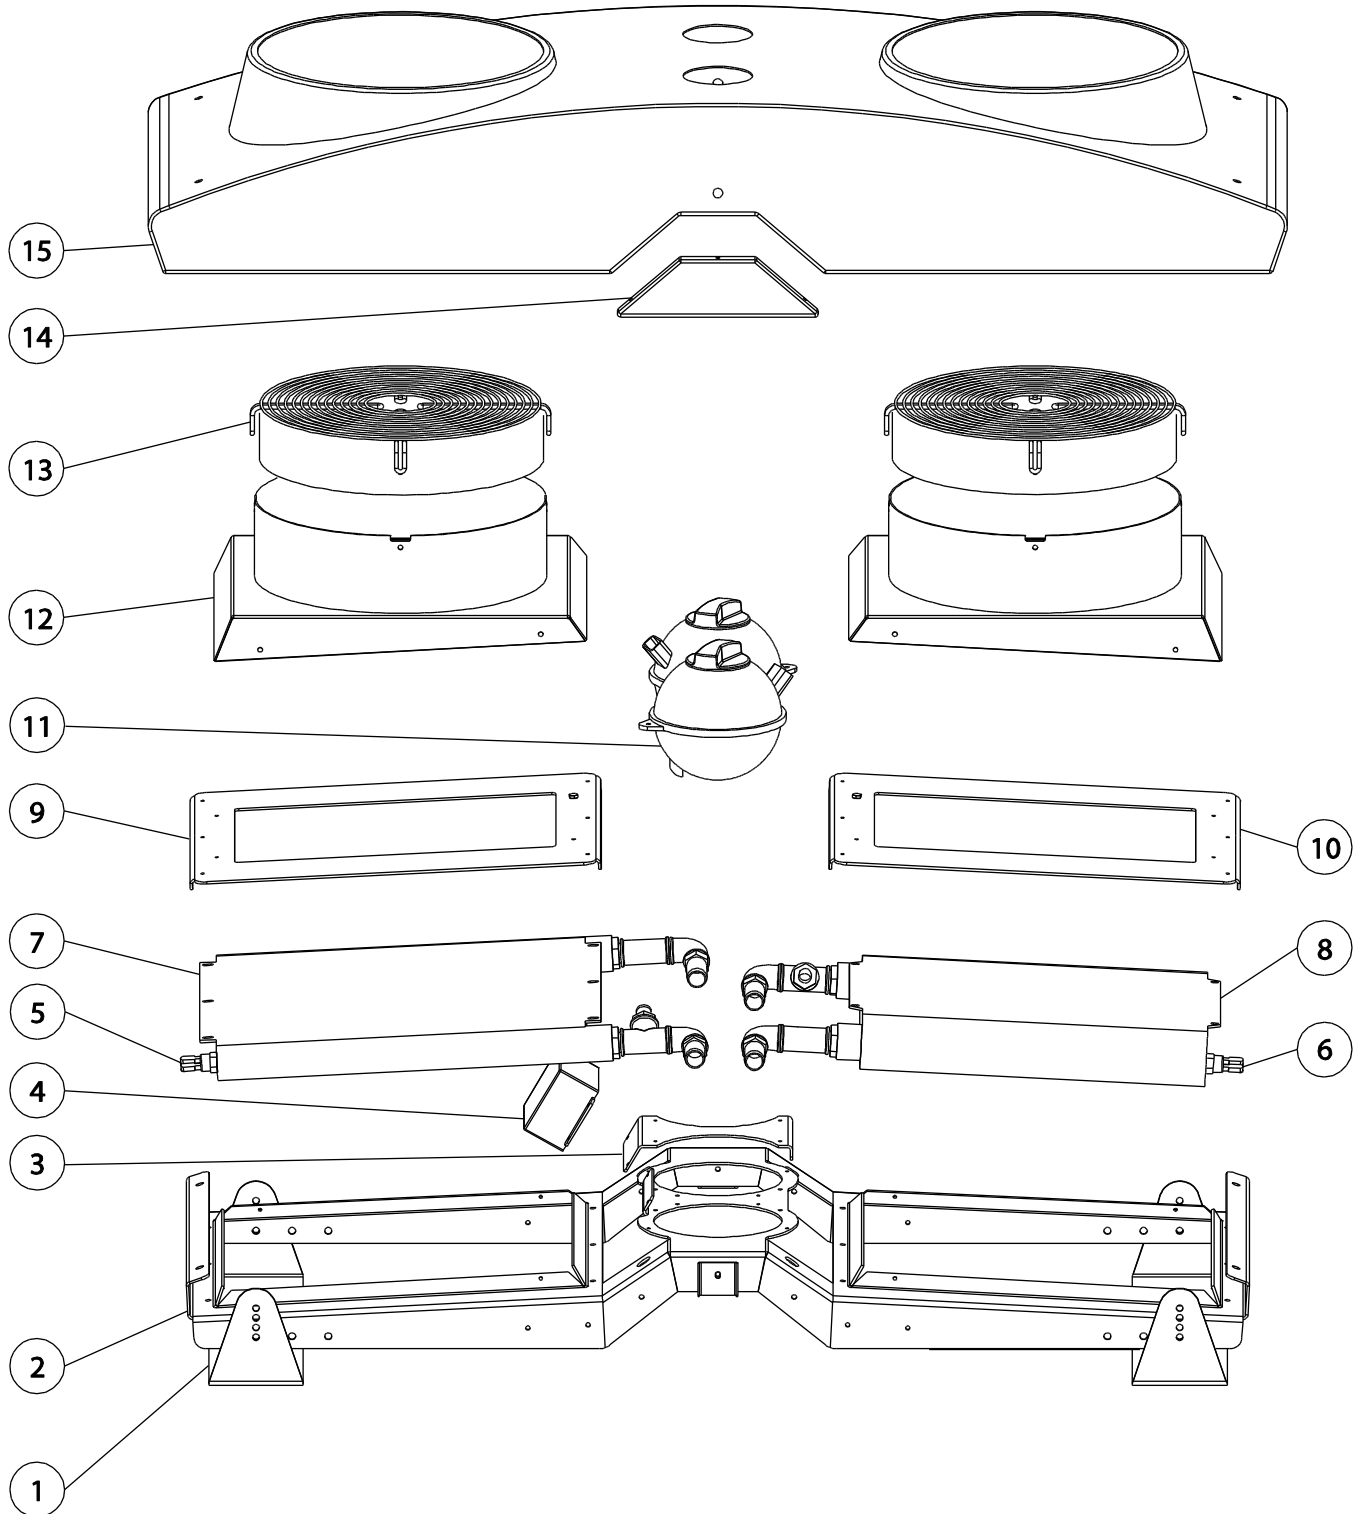

Figure 10: TopCool exploded view with spare parts.
If needed, the inset as shown as item 14 on figure 10 can be removed to provide more space for the hoses.